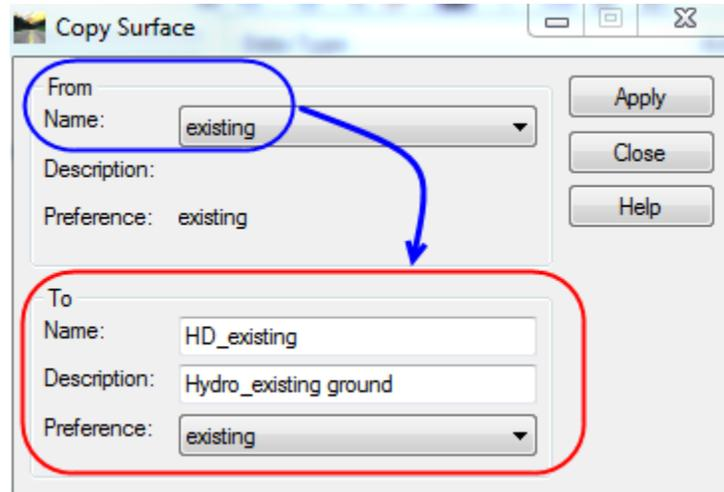

Figure 9 - Copy Surface
- G. In InRoads click on **Surface > Copy Surface**. In the Copy Surface dialog box, select the **existing** surface from the pull-down. Should be the only surface available. In the **To** portion for Name type in: Name: **HD_existing**, Description: **Hydro_existing ground** and for **Preference: existing**. Click **Apply** and **Close**. See Figure 9.